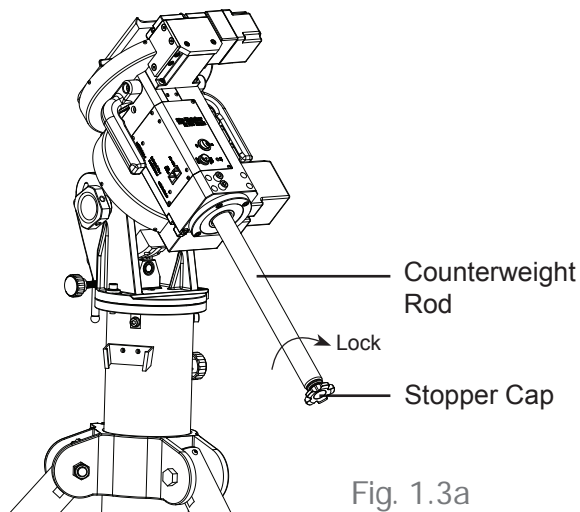

Fig. 1.3a
- Screw the counterweight rod into the mount as shown in Fig. 1.3a.